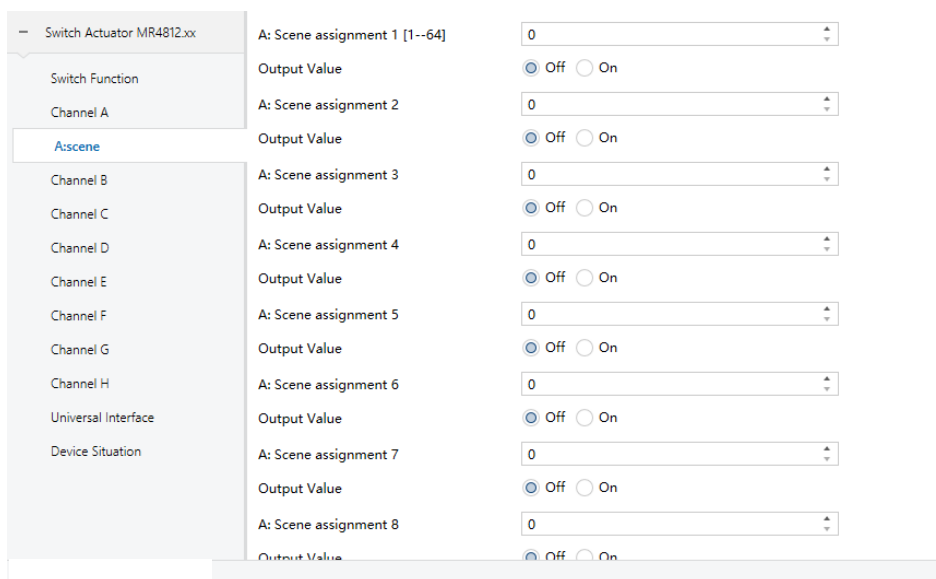

Figure 6.1.4
8-bit scene control	Scene control function, optional options: Enabled, Disabled, when "Enabled" is selected, the "scene" option will appear on the corresponding channel on the left side of the interface, click "scene", and the interface will switch as shown in Figure 6.1.4. In the interface, ① parameter "Overwrite values stored in the device during ETS download" is to overwrite the scene values stored in the device during ETS download, options: Overwrite, Not rewrite; ② parameter "Scene assignment 1-64" indicates the value of the scene number Setting, the scene number can be set from 1 to 64; ③ The parameter "Output Value" indicates the output value of the channel operation corresponding to the scene number, and the options are: On, Off; ④ The parameter "Storage value for Scene assignment X" indicates the scene with the scene number X Learning function, (X:1~64), options: No, Yes, (for example: Channel 1 and Channel 2 select "1" in the parameter "Scene assignment 1[1-64]", "Storage value for Scene assignment 1 When "Yes" is selected, the communication object takes the group address 3/1/1 as an example. After the data download is completed, manually operate CH1 and CH2 on the execution module to be On (open), and then "diagnose" on the ETS. , enter the group address 3/1/1, then select "Learn" in "Value", select "1" for the scene number, and send it on the bus, then the scene number "1" will learn actuator CH1 and CH2 On (open) status is complete.)
8-bit scene control	Scene control function, optional options: Enabled, Disabled, when "Enabled" is selected, the "scene" option will appear on the corresponding channel on the left side of the interface, click "scene", and the interface will switch as shown in Figure 6.1.4. In the interface, ① parameter "Overwrite values stored in the device during ETS download" is to overwrite the scene values stored in the device during ETS download, options: Overwrite, Not rewrite; ② parameter "Scene assignment 1-64" indicates the value of the scene number Setting, the scene number can be set from 1 to 64; ③ The parameter "Output Value" indicates the output value of the channel operation corresponding to the scene number, and the options are: On, Off; ④ The parameter "Storage value for Scene assignment X" indicates the scene with the scene number X Learning function, (X:1~64), options: No, Yes, (for example: Channel 1 and Channel 2 select "1" in the parameter "Scene assignment 1[1-64]", "Storage value for Scene assignment 1 When "Yes" is selected, the communication object takes the group address 3/1/1 as an example. After the data download is completed, manually operate CH1 and CH2 on the execution module to be On (open), and then "diagnose" on the ETS., enter the group address 3/1/1, then select "Learn" in "Value", select "1" for the scene number, and send it on the bus, then the scene number "1" will learn actuator CH1 and CH2 On (open) status is complete.)
8-bit scene control	<p>scene control function, options: Enable, Disable, when "Enable" is selected, "scene" will appear in the corresponding channel on the left side of the interface. Click "scene" and the interface will be switched as shown in figure 6.1.4. In the interface "Scene assignment 1-8" represents the setting of the scene number, which can be set to 1-64, and "Output Value" represents the channel operation corresponding to the scene number, which can be filled in as "On" and "Off".</p>